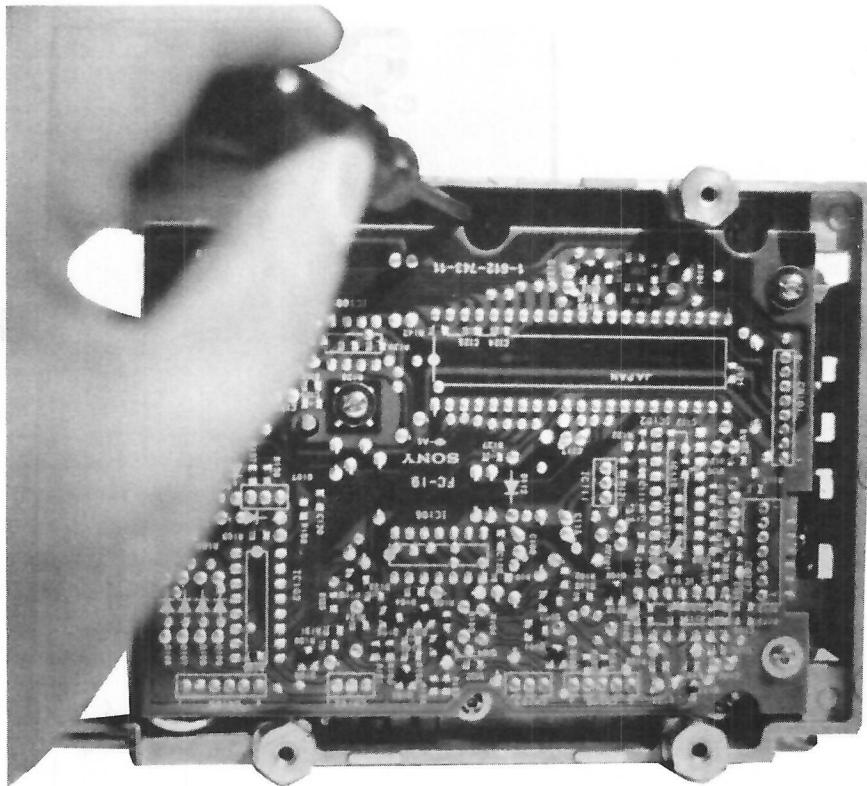

Figure 13-19 Carrier mechanism screw locations.
7. Rotate the drive such that the circuit board is facing up. As shown in Figure 13-19, use a small  $\frac{1}{8}$ -inch slotted screwdriver to remove four gold-colored flat-head screws mounted *beneath* the circuit board.